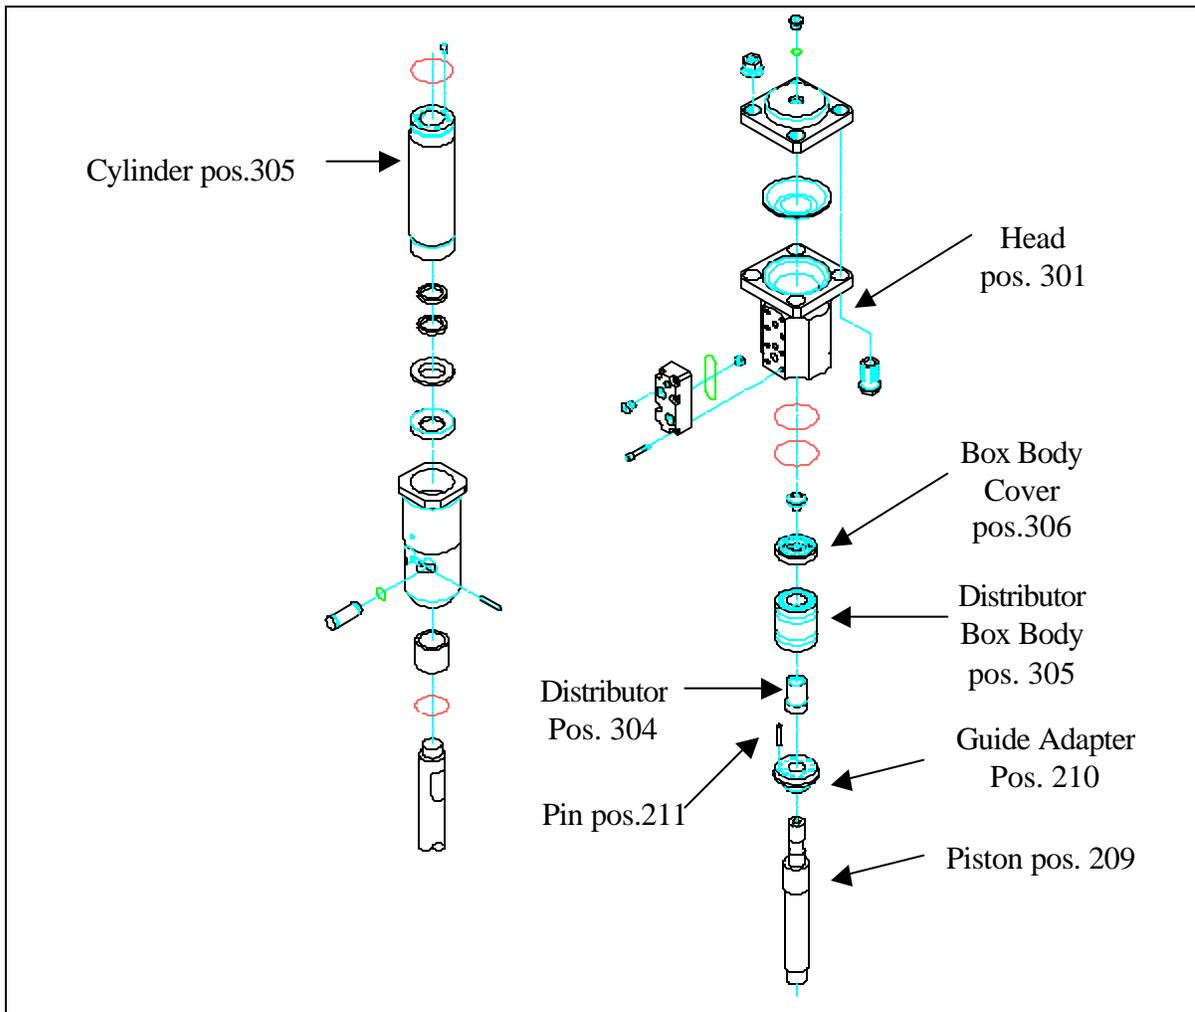

Figure 07-04: Exploded View
3. Remove the Cylinder (Position 305) with Piston and Guide Adapter from the Head Assembly (Position 302). Remove and note the location of the Pin (Position 211). (Figure 07-04)
4. Slide out Distributor (pos. 304) from bottom of the Distributor Box Body (Position 302).
5. Using suitable puller, remove Distributor Box Body (pos. 302) from Head.
6. Remove Distributor Box Body Cover (pos. 305) and Valve (pos. 306) from Head.